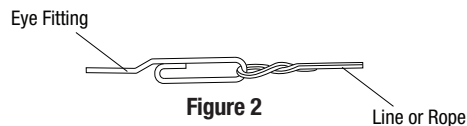

Figure 2
3. Fasten the pull line securely as shown in Figure 2.